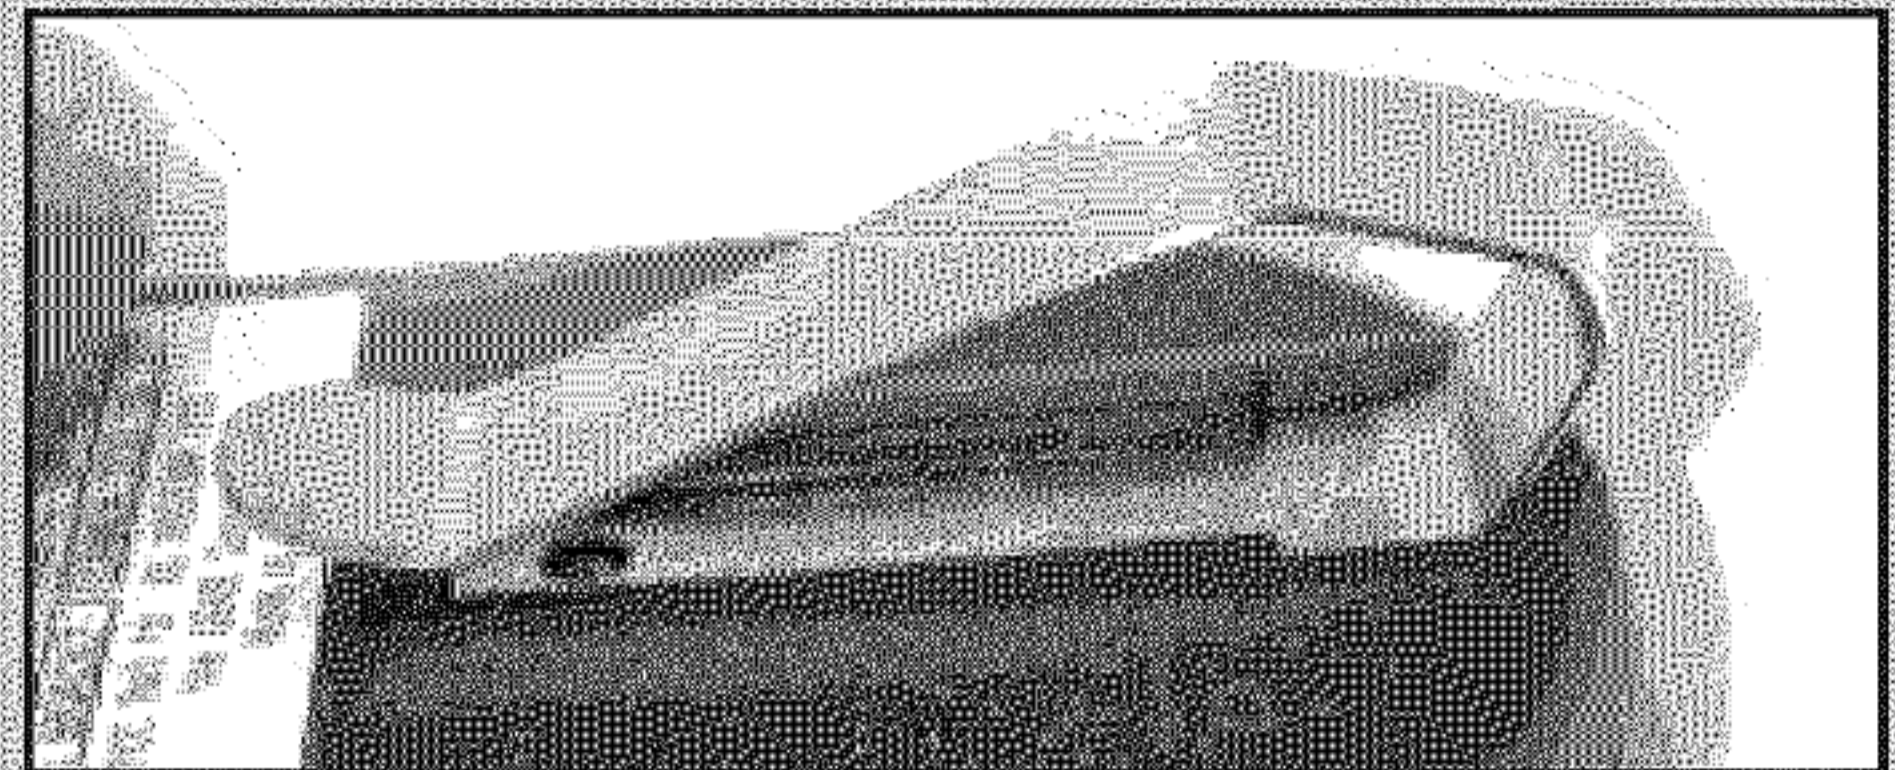

FIG. 9-3 Attach visor clip.
- It will snap into place (Fig. 9-3).